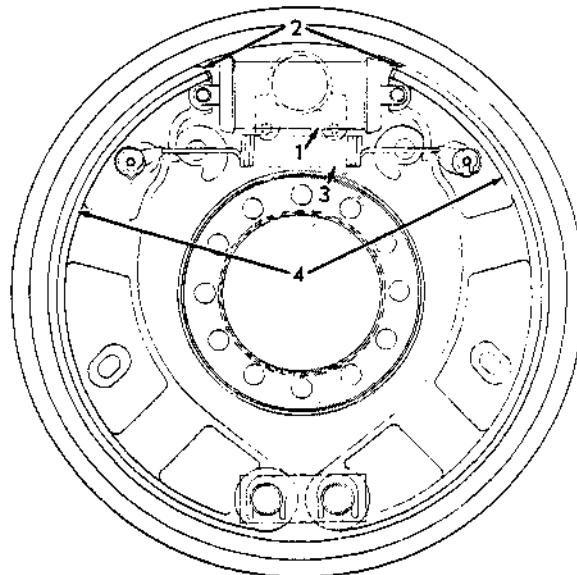

Fig. 45 Brake Assembly
a. Install brake cylinder Fig. 45 (1) and push rods.
b. Install brake shoe (4) and liner assemblies (2) over anchor pins. Use shims to avoid excessive shoe side play.
d. Align push rods with shoe webs and hook brake shoe return spring (3).